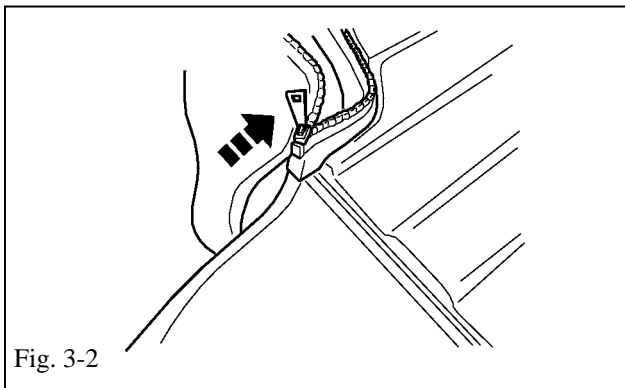

Fig. 3-2
- (b) Once properly aligned, zip sides into place. (Fig 3-2)